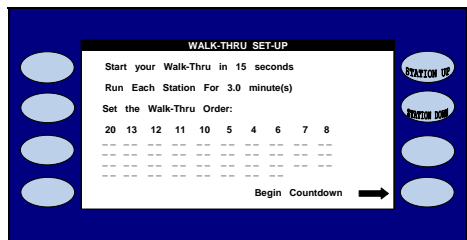

Figure 10.10
7.  Press the **BEGIN COUNTDOWN** Menu key (Figure 10.10).